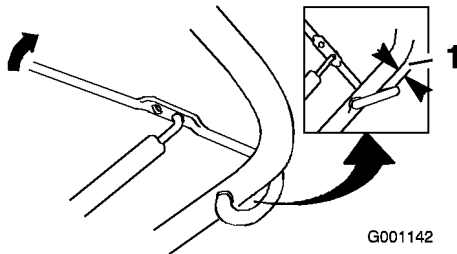

Figure 22
2. Ensure that a 1/16 to 1/8 inch (2 to 3 mm) gap exists between the control bar and the handle (Figure 22).